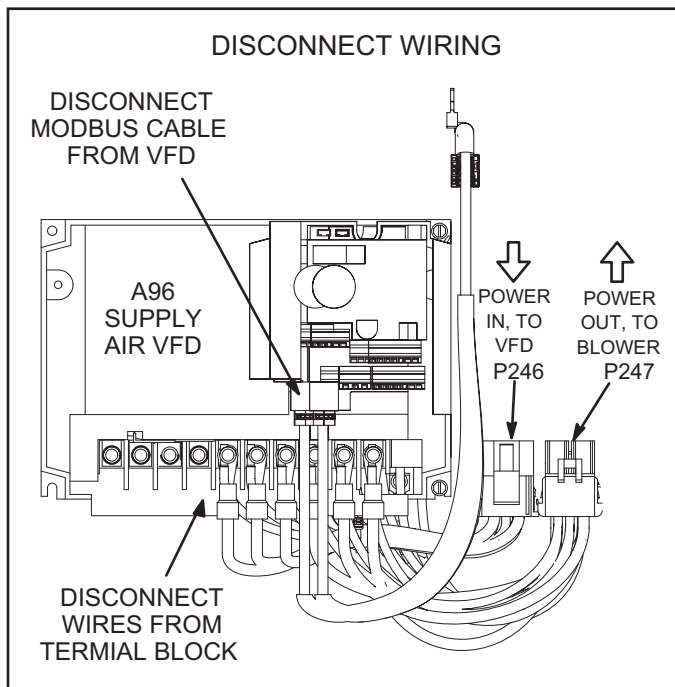

FIGURE 12
- 2 - Mark the wires leading to the terminal block on the bottom of the VFD with appropriate terminal name. Disconnect wires from the terminal block. See FIGURE 12.